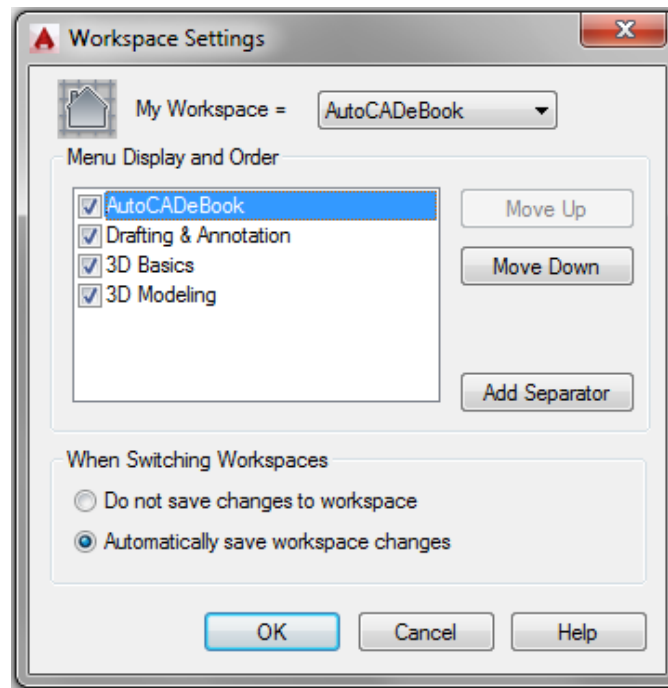

Figure Step 13
Step 13 (Toolbar menus) In the Workspace Settings dialogue box, set My Workspace to the workspace: AutoCADeBook. Enable Automatically save workspace changes by clicking the radio button. Click OK to close the box. (Figure Step 13)